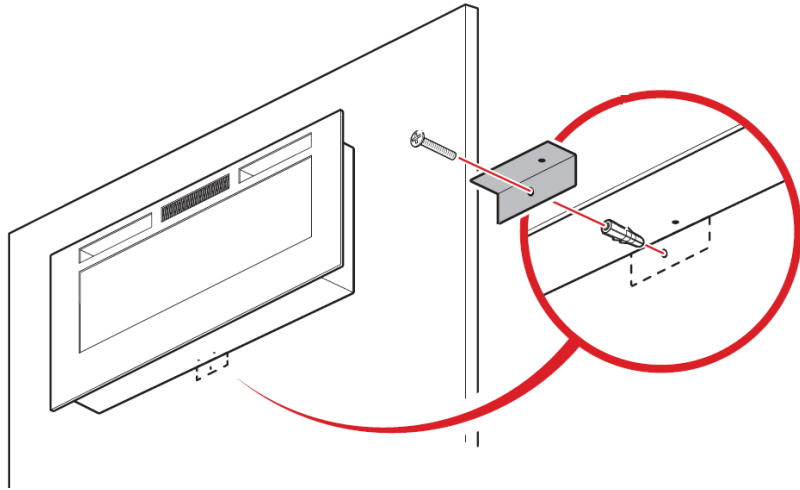

Fig.7
- Inset a wall anchor and attach bottom bracket with 4*30mm screws.Fig.7